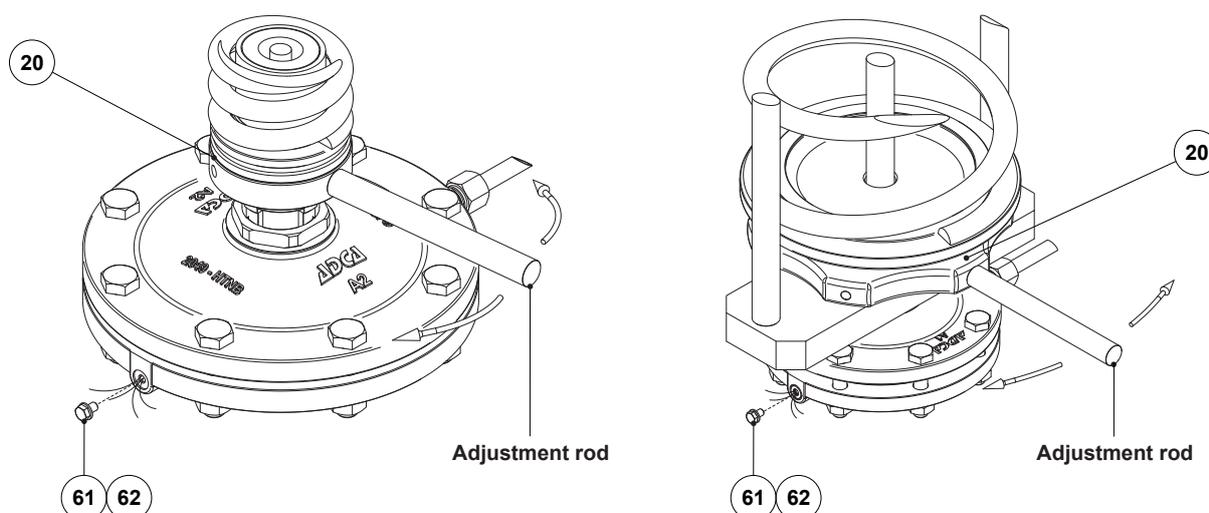

Fig. 2 - Changing the compression of the adjustment spring.
2. Set the downstream pressure by turning the spring adjusting nut (20) with the help of the adjustment rod, monitoring with the aid of the downstream pressure gauge.
- a. Turn the adjustment rod clockwise to increase spring compression and increase downstream pressure – see Figure 2.
- b. Turn the adjustment rod counterclockwise to decrease spring compression and reduce downstream pressure – see Figure 2.